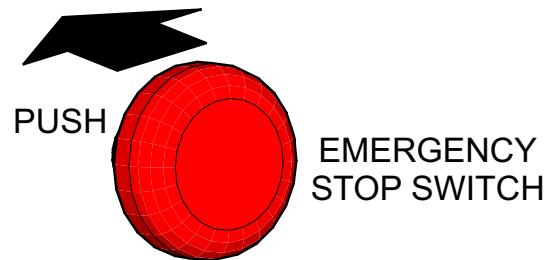

Figure 24. Emergency Stop Switch (Push)
1. Push the **EMERGENCY STOP** switch (Figure 24).